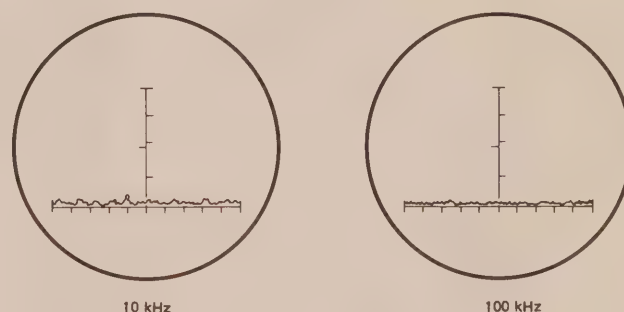

Figure 36
**Figure 36 - Background Noise:** This type of noise has the appearance of grass and is usually much lower in amplitude than the above types of noise. It gives a hissing sound in a speaker.